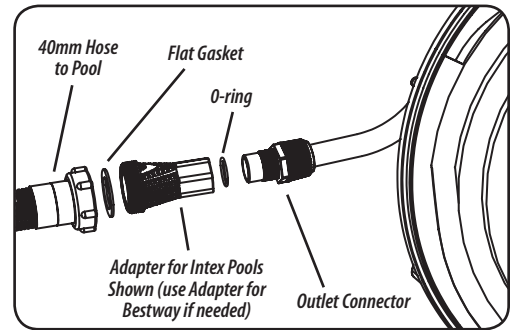

Figure 4
1. Attach the adapter for either Intex or Bestway to the central hose connector under the base. Make sure the o-ring is in the collared tube adapter prior to attachment (see figure 4).